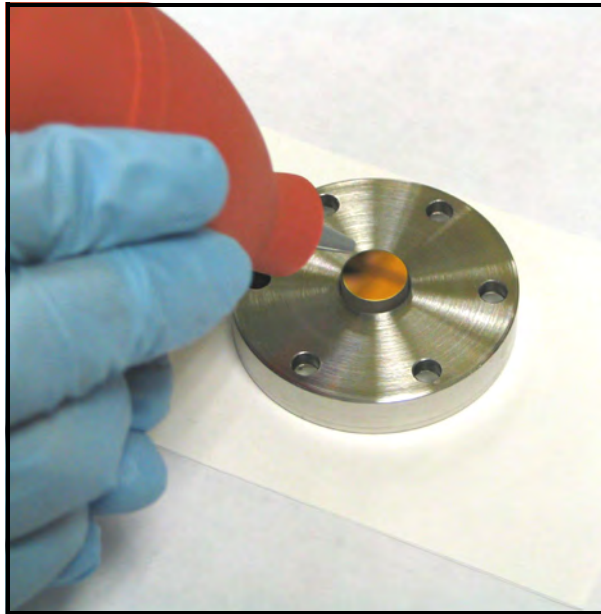

Figure 83: Drying the Mirror
9. Use the air blower to blow dry air onto the surface of the mirror. Puff repeatedly until the mirror surface appears dry (see *Figure 83* below).